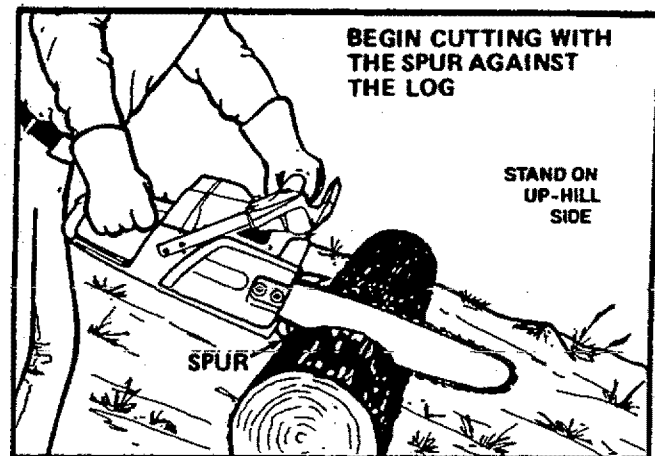

Figure 16
- Begin cutting the with spur against the log. Figure 16.
- Plan to stand on the up-hill side when cutting on a slope. Figure 16.
Stay on the uphill side of the tree to avoid the tree rolling or sliding downhill into you. Figure 16.